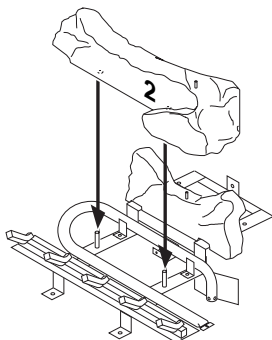

Figure 42 - Installing Log No. 2
2. Rest log #2 (large front log) on the pins on the front part of the grate (see Figure 42, page 26).